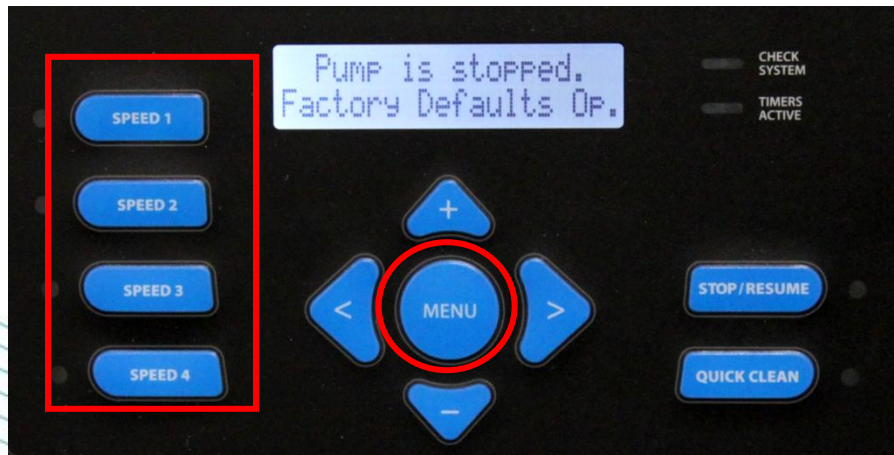
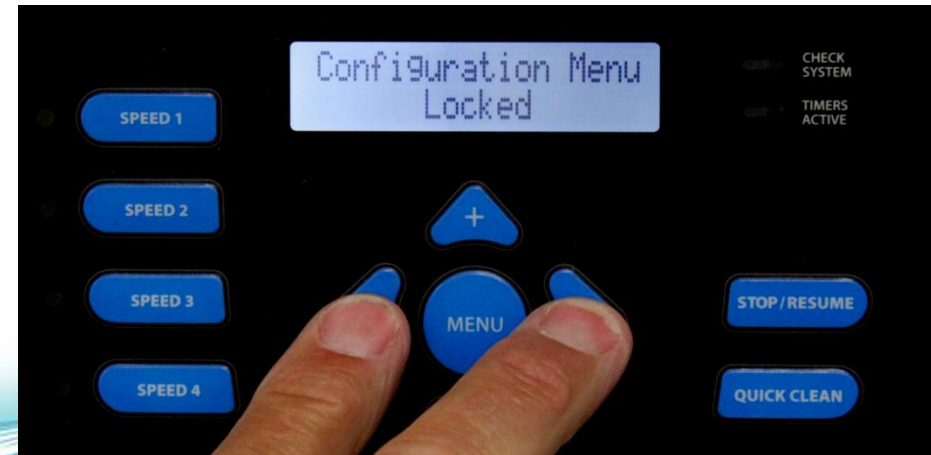

Figure 25
Figure 26
3. Press the  button (fig 25) to select the Configuration menu (fig 26).
3. Press and hold down the  &  buttons as shown to unlock and enter the Configuration menu (fig 26).